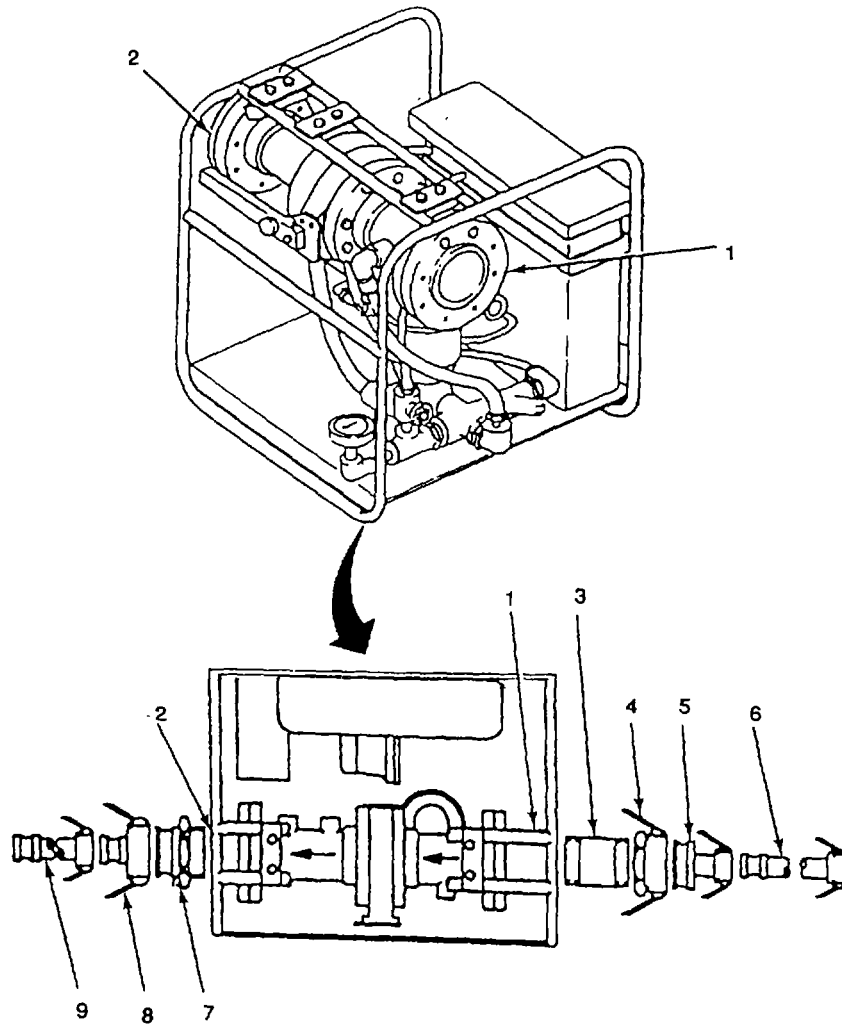

Figure 2-24. Hypochlorination Unit
- (9) Connect 2 in. X 20 ft rigid wall section hose assembly from storage tank to female quick-disconnect coupling half (3) on pump. Close cam arms (4).
- (10) Wrap anti-seize tape (Item 10, Appendix E) around threads on male quick-disconnect coupling half (5). Screw male quick-disconnect coupling half (5) into discharge port (2) of 125 GPM pump.
- (11) Connect 2 in. X 10 ft discharge hose to male quick-disconnect coupling half (5) on pump. Close cam arms.
- (12) Locate inlet (1, Figure 2-24) and outlet (2) ports of hypochlorination unit. Unscrew plastic dust caps from both ports. Store caps for later use.
- (13) Wrap anti-seize tape (Item 10, Appendix E) around threads on nipple (3). Screw nipple (3) into inlet (1) port on hypochlorination unit.
- (14) Screw female quick-disconnect coupling half (4) onto nipple (3).
- (15) Push cam arms on female quick-disconnect coupling half (4) forward to open position.
- (16) Connect male end of reducer (5) to female quick-disconnect coupling half (4). Close cam arms.
- (17) Push cam arms on female end of reducer (5) to open position.
- (18) Connect 2 in. X 10 ft hose (6) from 125 GPM pump to female end of reducer (5). Close cam arms.